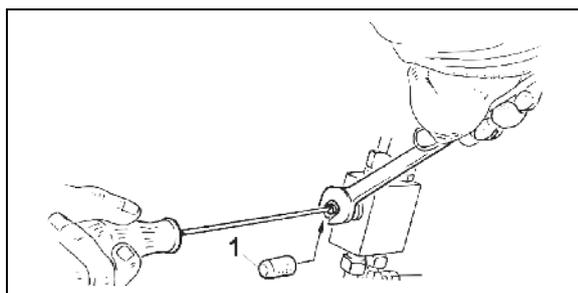

Fig. 102
1. Remove the protective cover (Fig. 102/1)
4. After making the setting, secure the valve position with a lock nut and replace the protective cover (Fig. 102/1).